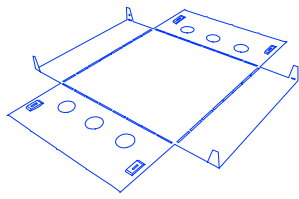

Fig 1.
2. Lay the insulation guard flat ensuring the interlocking tab receptacle is in the upward position – see Fig 1.
3. Bend the four interlocking tabs up 90° – Fig 1.